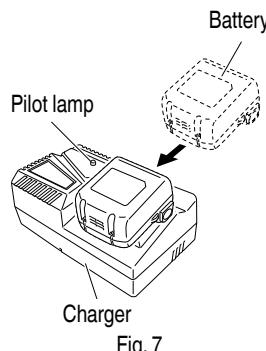

Fig. 7
2. Insert the battery to the battery charger. Insert the battery into the battery charger as shown in Fig. 7, 8.